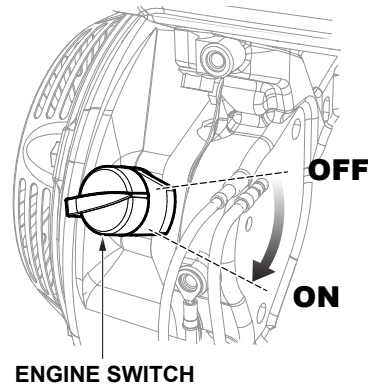

Figure 28. Engine ON/OFF Switch (ON)
2. Place the engine ON/OFF switch in the **ON** position (Figure 28).